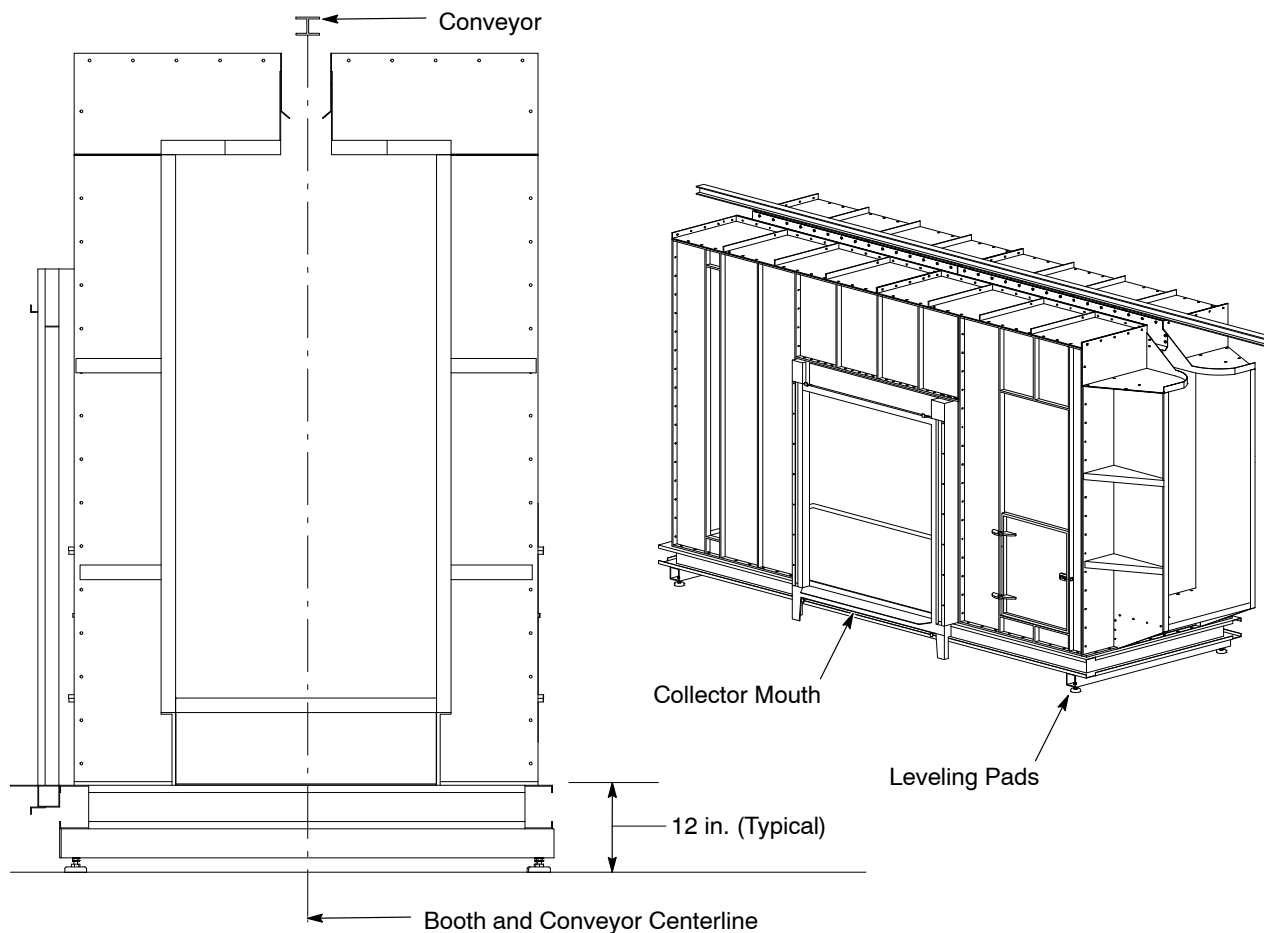

Figure 11 Booth Positioning
2. See Figure 11. Hang a plumb bob for the center of the conveyor and mark the floor.